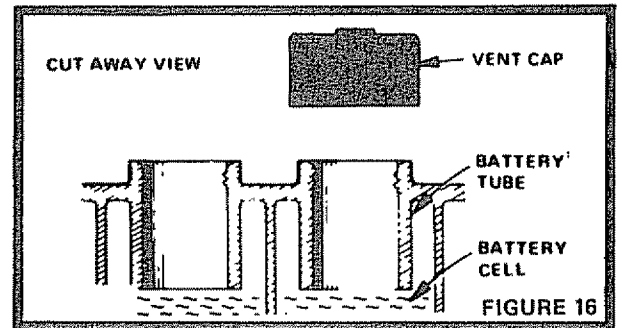

FIGURE 16
- Electrolyte solution level in each Battery Cell should be even with bottoms of tubes in cells (Fig. 16). Add distilled water if necessary. NOTE: DO NOT OVERFILL.